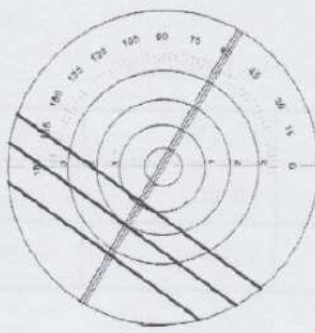
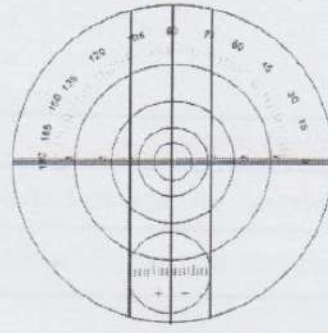

Fig 5
Fig 6
- (1). Make a small round point mark on optical center of the prism as measurement zone
- (2). Hold the prism on the instrument. Point the the center to the center of the lens hold ring and adjust the 180 line in the eyepiece field to cover the point of the three print needles (this position can be found with central printer of the lens)
- (3). focus the mark image to be clear. As the prism diopter exists in the lens, the mark image will go away from the center. As in Fig. 5, the mark image will go away along the prism basic point direction, that is, mark image above the prism basic point will move to the upper, the mark image under the prism basic point will move down. To the right eye prism basic point inside left eye prism basic point outside prism, the mark image will move to the right. To both the right eye prism basic point and left eye prism basic point inside prism the image will move to the left.
- (4). Turn axial line ring, to part of the line reading half the center of the mark image.
- (5). The prism diopter of the lens can be read through position moving of the mark center to the same circle of the reticule. 1-4 prism diopter are numbers shown on reading line .0.25 prism diopter is estimated.
- (6). Position of the prism basic point can be on the reticule. If the mark image move down to horizontal line the reading value is the upper value add 180, as shown in Fig. 6.